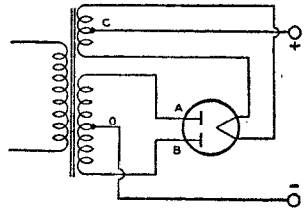

Fig. 73
**Maximum peak inverse plate voltage** is the highest instantaneous plate voltage which the tube can withstand recurrently in the direction opposite to that in which it is designed to pass current. For mercury-vapor tubes and gas-filled tubes, it is the safe top value to prevent arc-back in the tube operating within the specified temperature range. Referring to Fig. 73, when plate A of a full-wave rectifier tube is positive, current flows from A to C, but not from B to C, because B is negative. At the instant plate A is positive, the filament is positive (at high voltage) with respect to plate B. The voltage between the positive filament and the negative plate B is in inverse relation to that causing current flow. The peak value of this voltage is limited by the resistance and nature of the path between plate B and filament. The maximum value of this voltage at which there is no danger of breakdown of the tube is known as maximum peak inverse voltage. The relations between peak inverse voltage, RMS value of ac input voltage, and dc output voltage depend largely on the individual characteristics of the rectifier circuit and the power supply. The presence of line surges or any other transient, or wave-form distortion may raise the actual peak voltage to a value higher than that calculated for sine-wave voltages. Therefore, the **actual** inverse voltage, and not the calculated value, should be such as not to exceed the rated maximum peak inverse voltage for the rectifier tube. A calibrated cathode-ray oscillograph or a peak-indicating electronic voltmeter is useful in determining the actual peak inverse voltage. In single-phase, full-wave circuits with sine-wave input and with no capacitor across the output, the peak inverse voltage on a rectifier tube is approximately 1.4 times the RMS value of the plate voltage applied to the tube. In single-phase, half-wave circuits with sine-wave input and with capacitor input to the filter, the peak inverse voltage may be as high as 2.8 times the RMS value of the applied plate voltage. In polyphase circuits, mathematical determination of peak inverse voltage requires the use of vectors.